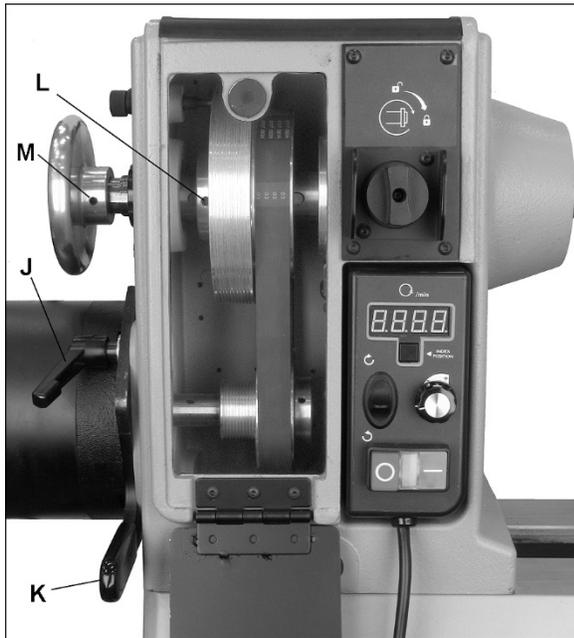

Figure 8-9: sheave/belt alignment
3. Loosen pivot lock handle (J, Figure 8-9) and lift up tension handle (K, Figure 8-9) to raise motor. Tighten pivot lock handle (J, Figure 8-9) to hold motor in raised position.
5. Loosen pivot lock handle (J, Figure 8-9) and lower motor to tension belt. Be sure that the Poly-V grooves of belt seat properly in the corresponding groove of sheave. Do not over tension; a very light pressure on the tension handle (K, Figure 8-9) is adequate to prevent belt slippage.
6. Tighten pivot lock handle (J, Figure 8-9).
The motor and spindle sheaves are aligned by the manufacturer, but if any service is performed that affects their alignment it is very important that they be realigned. To realign them, loosen the two set screws on spindle sheave (L, Figure 8-9) with a hex wrench, and slide spindle sheave into proper position. Retighten set screws.
2. Loosen lock handle (J, Figure 8-9) and lift up handle (K) to raise motor.
3. Tighten lock handle (J) to hold motor in raised position. Slip belt off pulleys.
4. Loosen two set screws on handwheel (M, Figure 8-9) with a hex key, and pull handwheel off headstock spindle.
9. If replacing spindle sheave, loosen two set screws (L, Figure 8-9), and slide sheave off spindle. Install new spindle sheave, loosely securing the two set screws. Make sure the sheave is oriented properly.
12. Reinstall handwheel and tighten set screws (M, Figure 8-9).
14. Align new sheave (see sect. 8.11) then tighten two set screws (L, Figure 8-9) securely on sheave.
15. Loosen lock handle (J) and allow motor to lower. Do not over-tension; a very light pressure on tension handle (K) is adequate to prevent belt slippage.
16. Retighten lock handle (J).